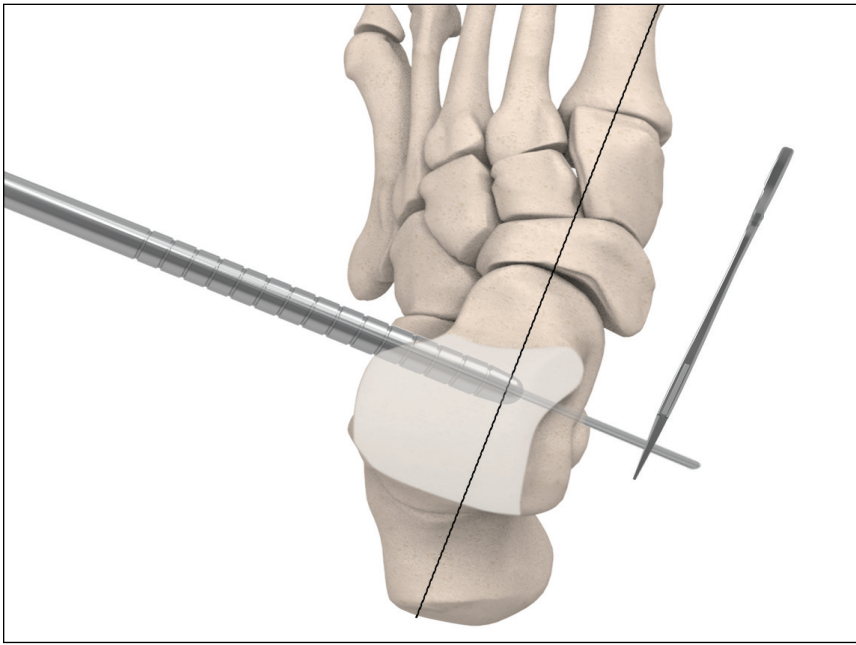

Fig 3
Place the sizer probes (ref 17481/ 17185/ 17186/ 17187/ 17188/ 17189) over the guide wire and insert into the subtalar joint until the end of the probe is just past the longitudinal bisection of the talus. (Fig 3) Continue inserting the sequentially sized probes until the desired restricted subtalar joint motion and clinical correction is achieved.